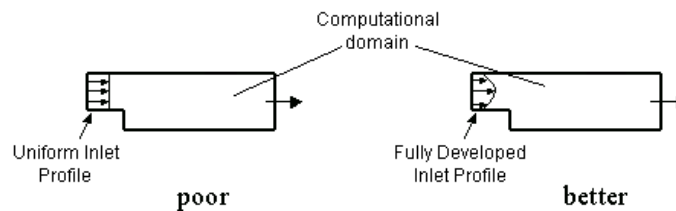

Figure A.4.1: Inlet Profiles—Flow in a Duct With Sudden Expansion
- **Boundary conditions:** As with physical models, the accuracy of the CFD solution is only as good as the initial/boundary conditions provided to the numerical model. For example, for a flow problem involving a duct with sudden expansion, if flow is supplied to the domain by a pipe, then a fully-developed profile for velocity should be used instead of assuming uniform conditions (Figure A.4.1).